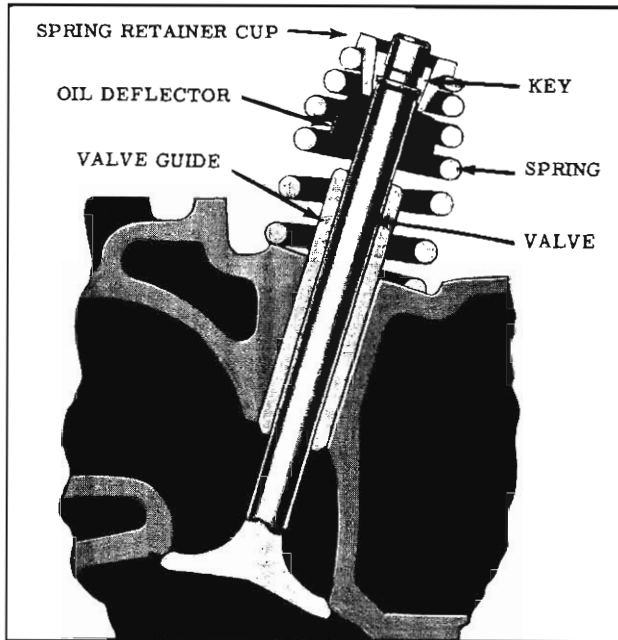
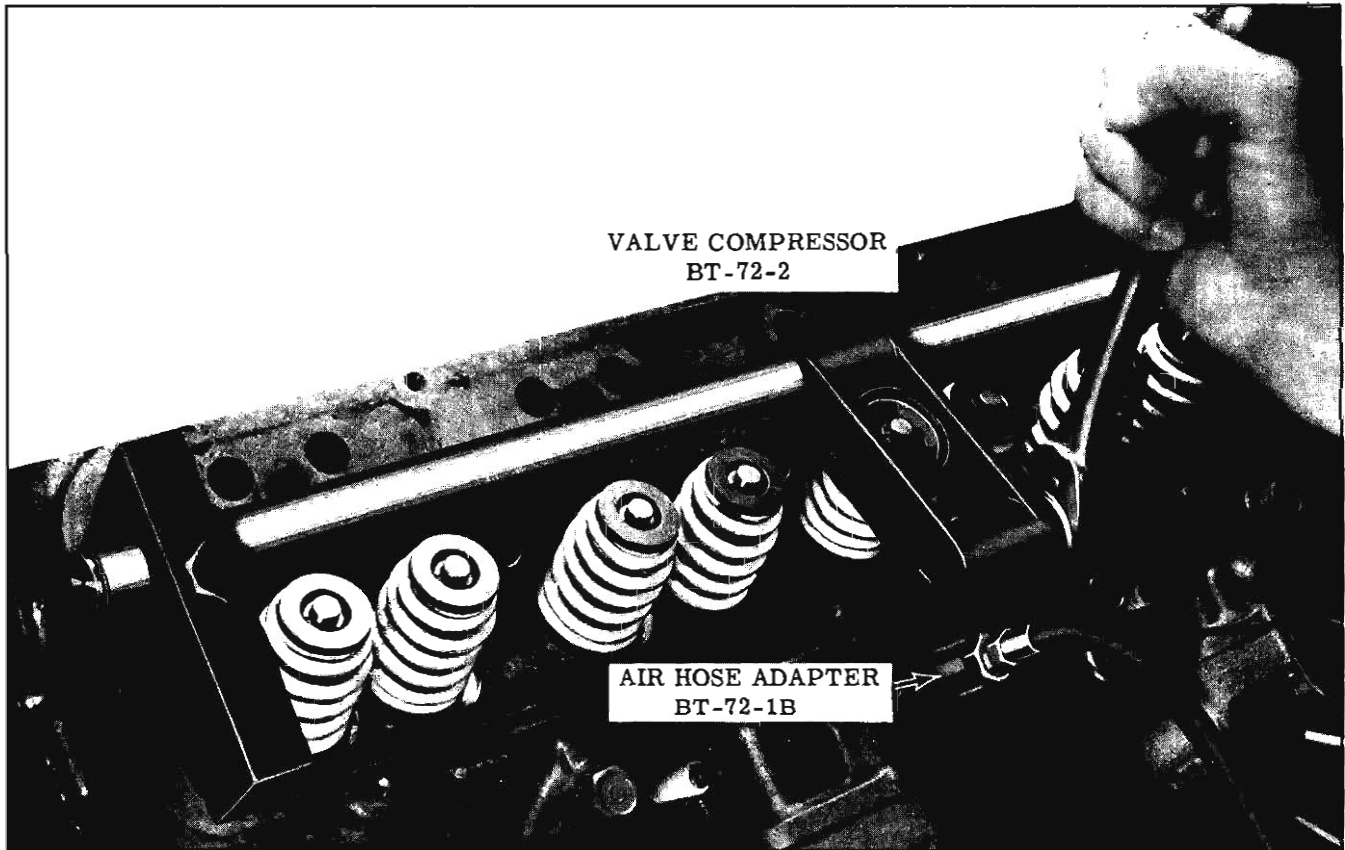

Fig. 3-7 Valve Assembly
Fig. 3-8 Compressing Valve Springs
3. Install valve compressor on cylinder head as shown in Fig. 3-8. Compress valve spring until valve keys are accessible, then remove keys, spring retainer cup and spring. (Fig. 3-7).
4. Remove valve spring retainer cups and springs. (Fig. 3-7) Keep all parts grouped so they can be installed on their original valves.